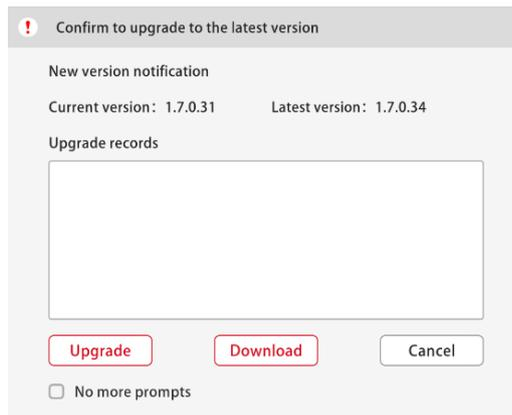

Figure 2-18 Software Update Interface
5. When "Check for update automatically" is checked, the robot will automatically check for updates once powered on, and a pop-up window will remind users if there is any update. See Figure 2-18.